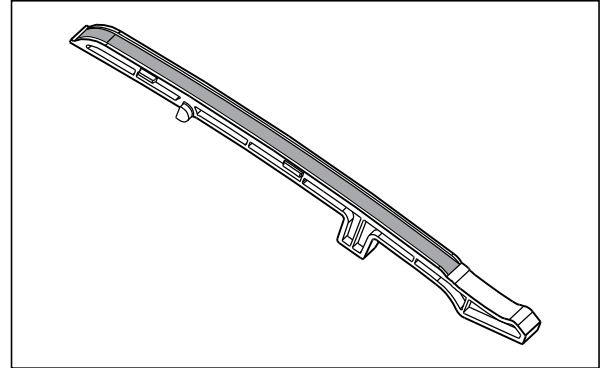

Fig. 3.88
- Inspect the guide cam chain for any distortion / damage, cuts or crack. If found any, replace the guide with new one. (Fig. 3.88)